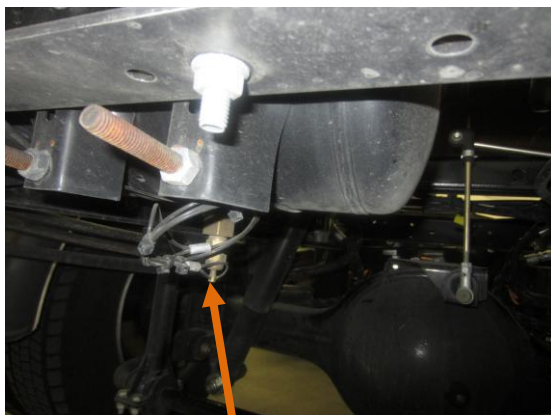

Figure 10.4
- ✓ Pull laterally on the drain valve tethers on the (3) air brake storage tanks (Figures 10.4 & 10.5) to check for excessive moisture and replace air brake system filter/dryer if necessary (Figure 10.7).